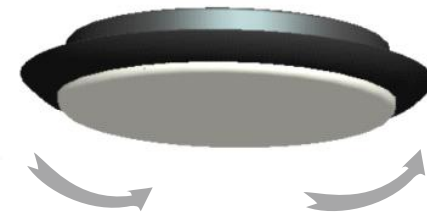

Fig 8.1
8.1 Remove the light assembly out of the box and turn the lampshade counterclockwise to disassemble it as shown in Fig 8.1, and then remove the LED light kit out of the light kit pan directly as the light kit is fixed by magnetic attraction.